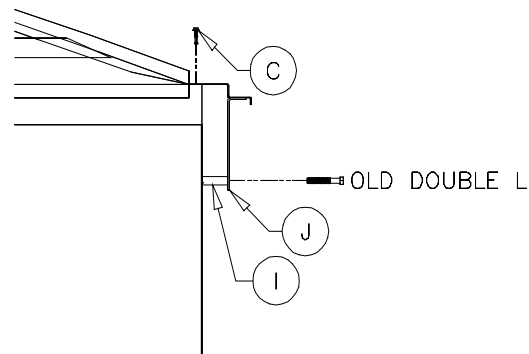

Figure 8
**Procedure:** The locking flange (H) is mounted either to the top or side (See Figure 8) or side (See Figure 5-7) of the box wall. This will depend on the make of the box you have. Pre-drill holes every 15" apart using a 3/16" drill bit. Secure using the 1/4"x1" lag screws (C) provided. The locking flange must run the entire length of the sidewall. The front locking flange may need to be notched in order to accept the sidewall latches. In most cases, this must be done on the rear as well.
**Note:** If there is a space between the flat (J) and the sidewall, a spacer (I) must be used behind the flats for support against the box wall. These spacers may need to be cut to length and must be secured using the 3/8"x3" hex bolts and 3/8" hex nuts provided.